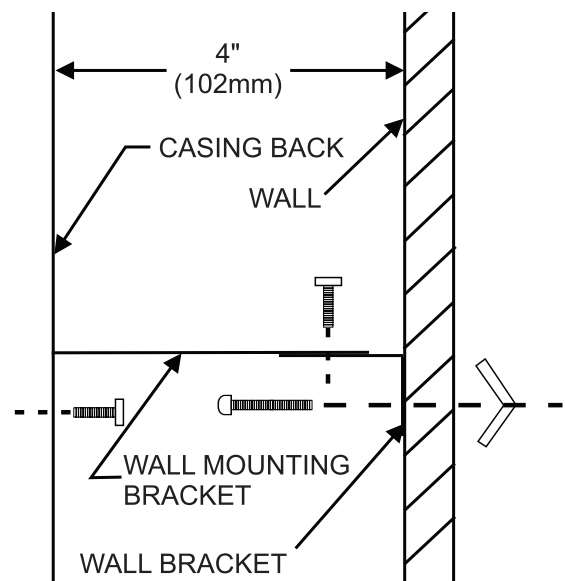
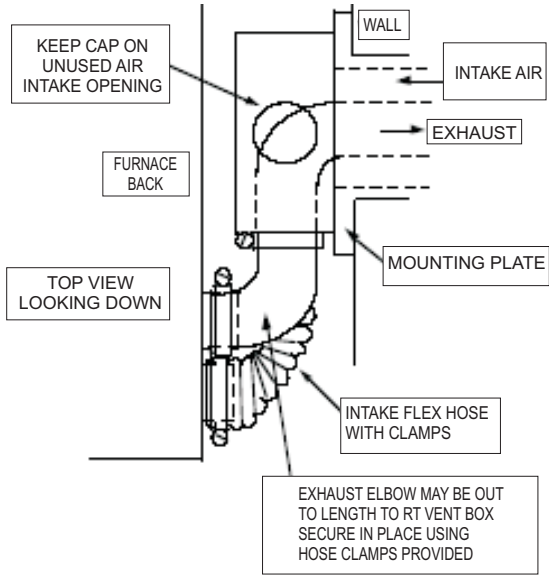

Figure 3
Figure 4
After finding a location for the furnace, gas supply and vent, the wall bracket must be positioned and installed. The bracket should be mounted to the wall studs, if possible, or anchored solidly to the wall. Use the (2) 1" (25mm) screws or (2) plastic anchors. Drill (2) 5/16" (8mm) diameter holes in wall if plastic anchors are used. Attach the two wall mounting brackets to the casing back by using (4) 1/2" (13mm) screws. **See Figure 3.**
To complete inside installation, secure furnace to the wall bracket by attaching the two wall mounting brackets to the wall bracket by using (2) 1/2" (13mm) screws provided. See Figure 3 and Figure 4. Secure the top shroud in place by attaching 2 screws to each side shroud. This will keep the unit up against the wall.